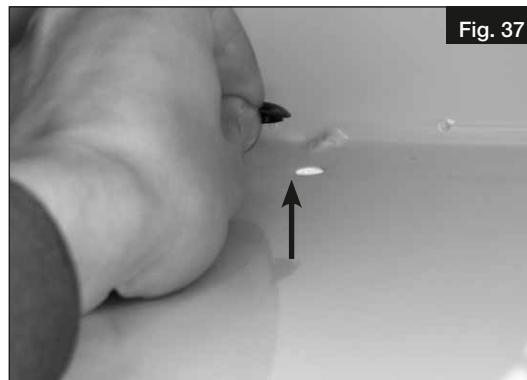
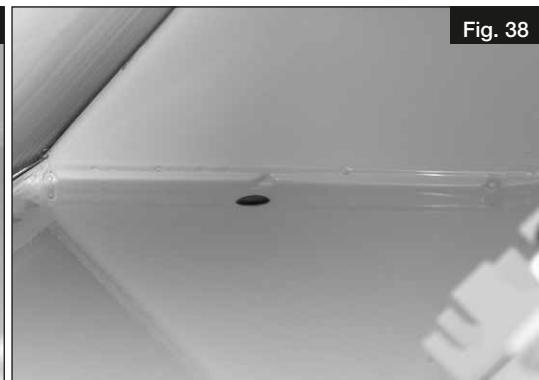

Fig. 37
Fig. 38
- ① If the cold recovery system is activated, the plug at the bottom of the unit must be removed (see Fig. 37, Fig. 38) to ensure the condensate drainage (cf. also 4.4 „Install ball siphon“, page 12).